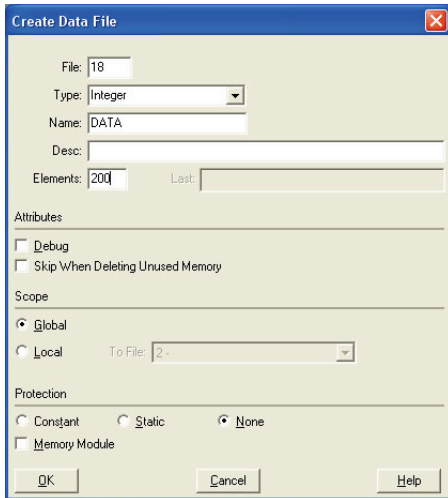

Figure 68: Creating a Data File
- c) Follow the same procedure to create a data file. This file will be used to store the incoming data read from the interface card. Enter a file number (e.g. 18), set the type to “Integer”, enter a descriptive name (e.g. “DATA”), and enter a number of elements (e.g. 200). Refer to Figure 68. Click OK to create the file.